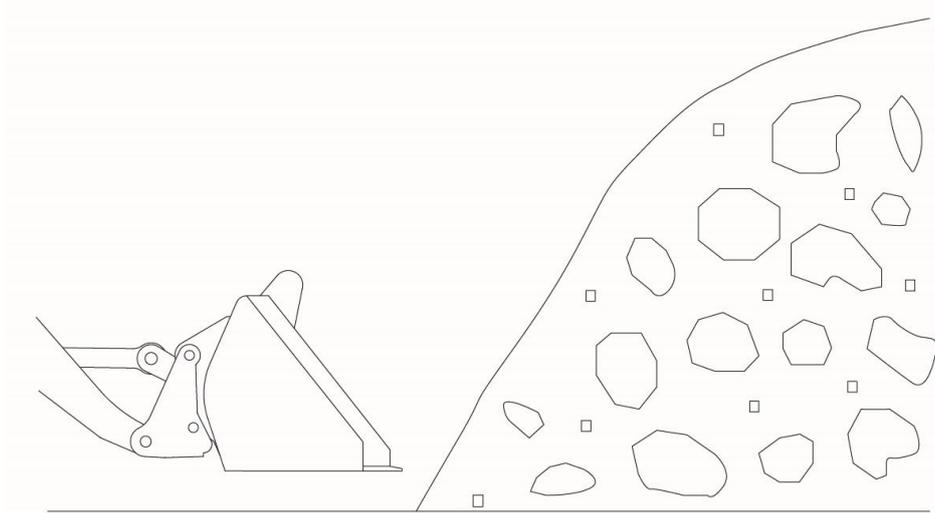

Figure 5-45 Loading operation (1)
Step 6: Keep the posture of the loader unchanged, move the loader to the front of the new attachment, and operate the control handle to make the pins (5) on both sides of the lift arm contact the bucket hangers (6) at the same time;
Step 7: Move the control handle (3) and lift the arm vertically up;
Step 8: Pull the quick change cylinder switch (2) to make the piston rod (4) of the quick change cylinder stretch out to complete the replacement of the attachment .
Step 2: When the loader is moving forward and approaching the stockpile, put down the bucket, keep the bucket 30cm away from the ground, and stop the loader, as shown in Figure 5-45;